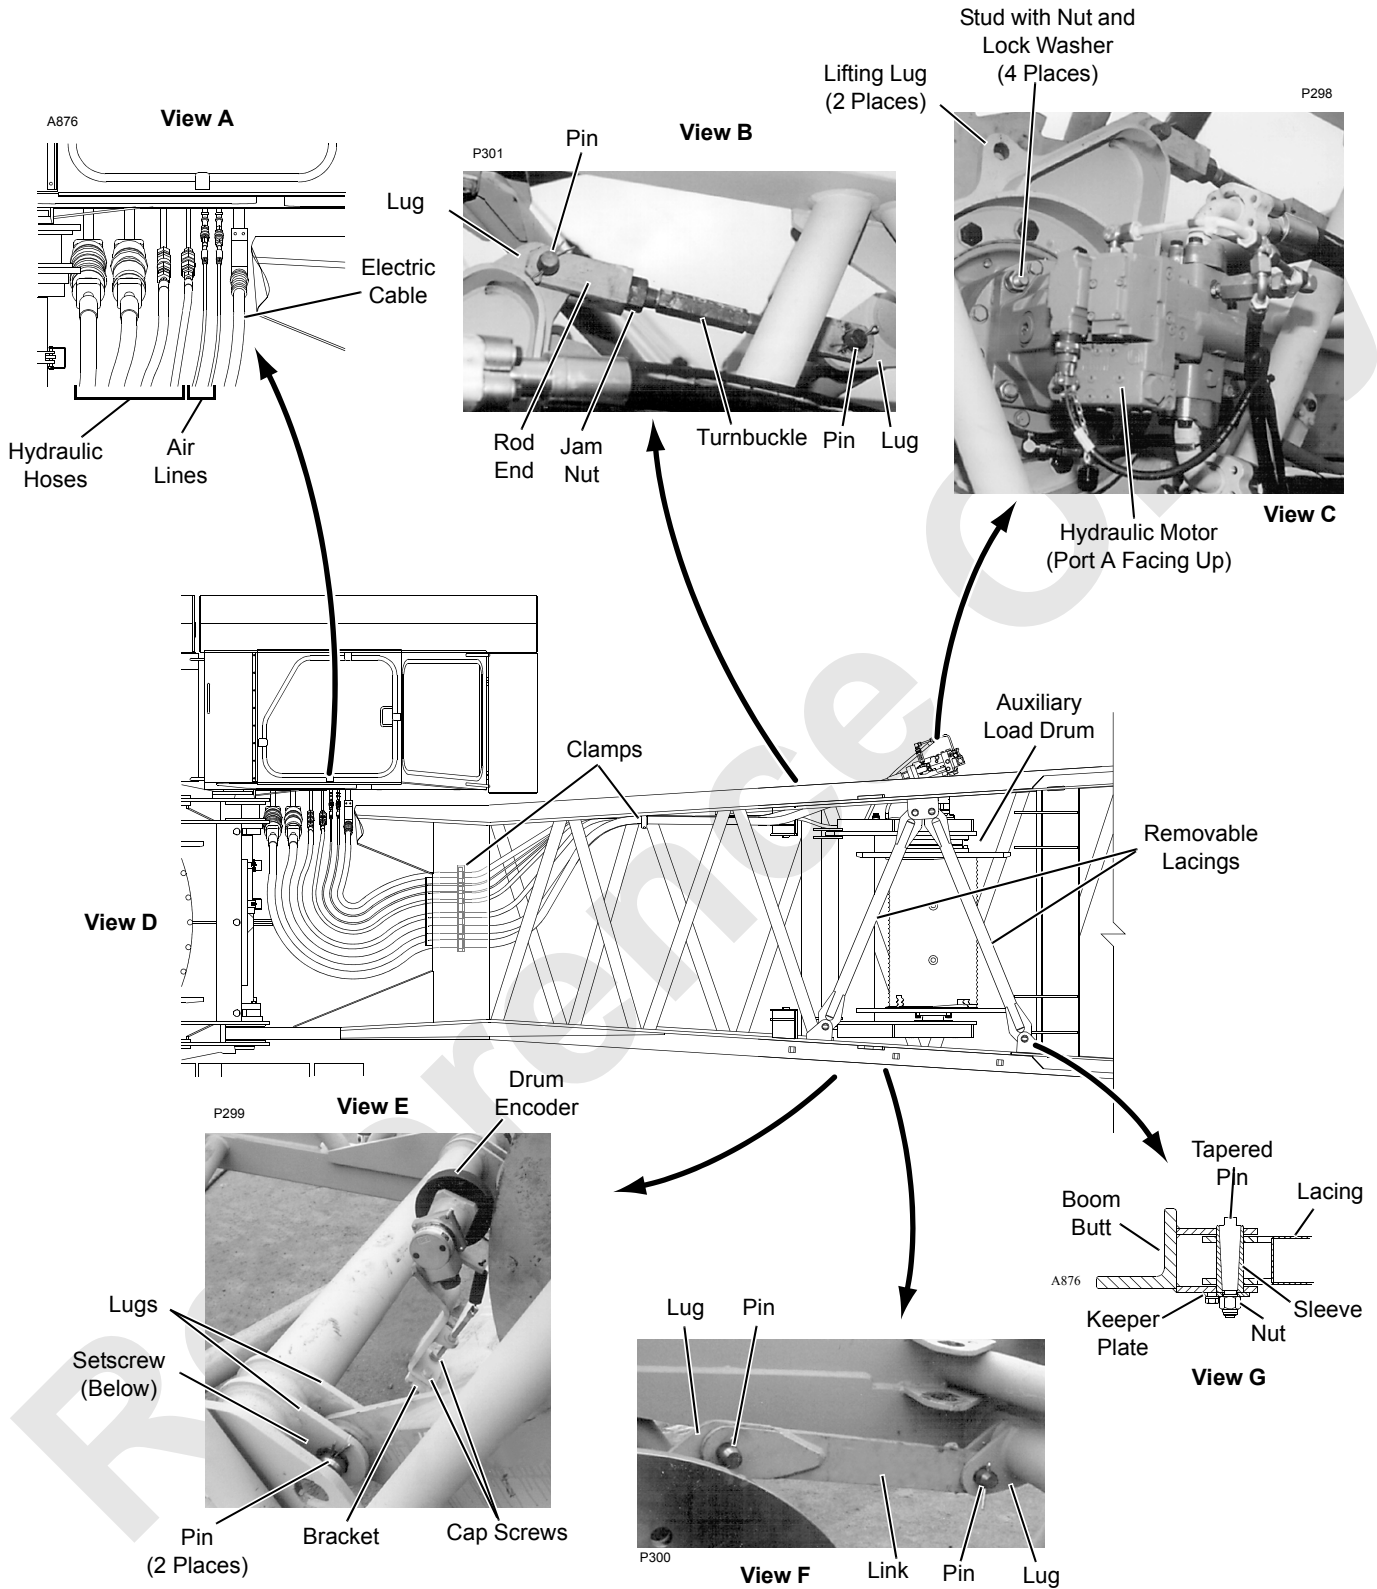

FIGURE 4-24
See Figure 4-24 for the following procedure.
1. Install clamp assemblies (Figure 4-24, View D) on boom butt (two places) for hydraulic hoses, air lines, and electric cable.
3. Connect hydraulic hoses and air lines to couplers at bottom right side of operator's cab (Figure 4-24, View A). Size and configuration of couplers make it impossible to hook up hoses or lines incorrectly.
4. Connect electric cable to plug at bottom right side of operator's cab (Figure 4-24, View A).
If butt is removed with auxiliary load drum installed, hydraulic hoses, air lines, and electric cable must be disconnected from couplers at bottom right side of operator's cab (Figure 4-24, View A).